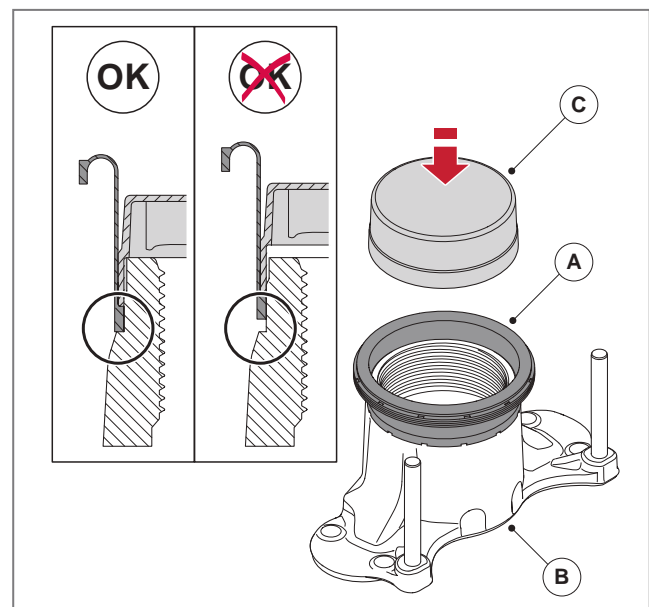
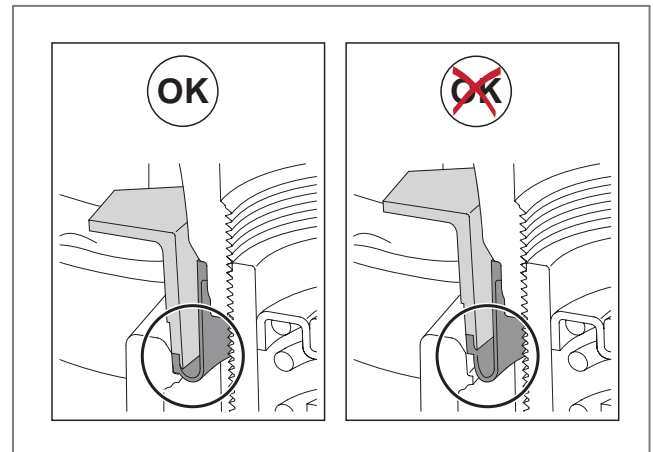

Fig. 51 - Fixing the thrust plate bellows
Fig. 54 - Thrust plate bellows seated correctly/incorrectly
4. Using SAF special tool P/N 4 434 3886 0 (C), press the adjustment screw bellows (A) into position on the thrust plate (B), see ► Fig. 51. Check that the bellows are correctly seated in position on the thrust plate.
14. Remove the special tool. Check that the bellows are correctly seated in the brake calliper, see ► Fig. 54. Double check that the bellows are correctly positioned on the thrust plate, see ► Fig. 51. Failure to seat the bellows correctly will compromise the service life of the brake!